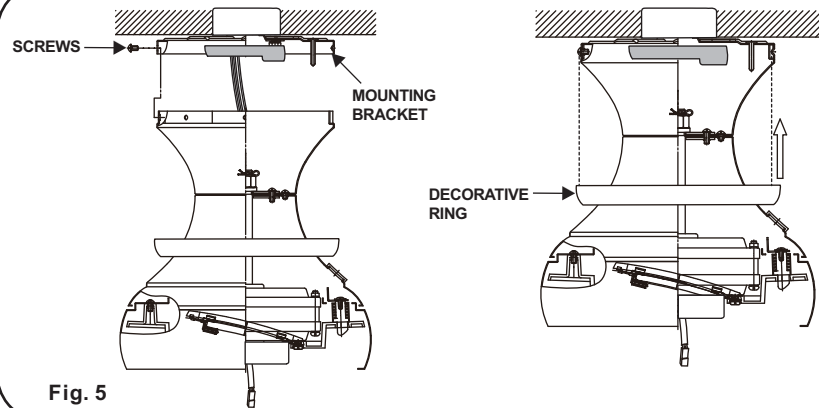

Fig. 5
Step 1. Loosen two of the four screws from the mounting bracket and remove the other two. (Fig. 5)